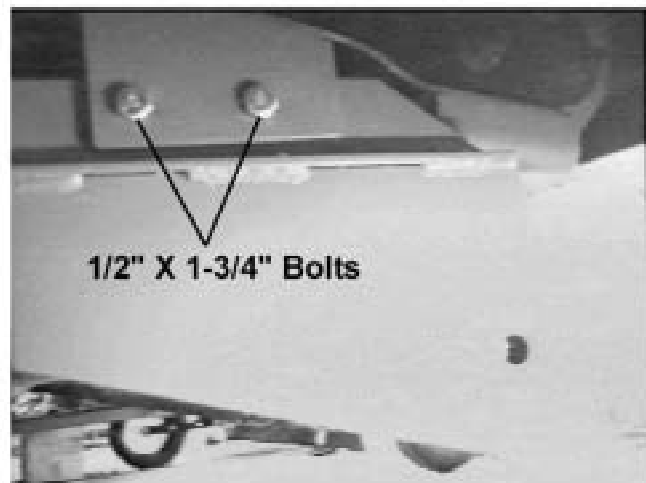

Figure 10
1. Position assembled subframe under truck between two rear subframe brackets. Install four 1/2" x 1-3/4" grade 5 bolts with 1/2" flat washers and 1/2" locknuts. See Figure 10.